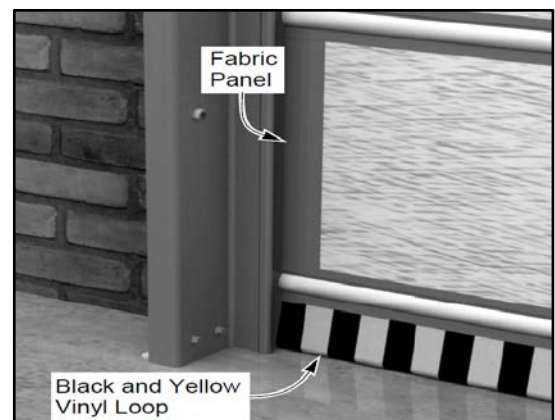

Figure 67
2. Inspect the black and yellow vinyl seal for tears and abrasion. Replace any worn or damaged parts as required. (See Figure 67)